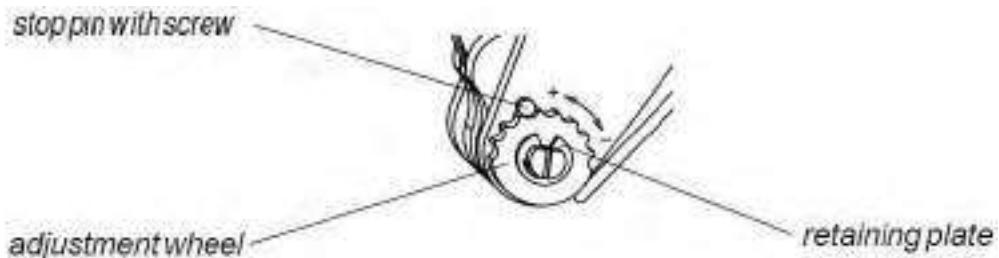

Figure 92
- (5) Slowly close the tool handles, allowing the dies to mate and/or align. Continue closing the tool handles until the ratchet makes the fifth "click", then tighten both die retention screws until snug.
- (6) Install the locator assembly on the stationary jaw and tighten the hex nut.
- (7) Install the contact locator on the movable jaw and tighten hex nut.
(8) Check the crimp heights. If necessary, adjust as follows:
- b. If the crimp height is greater than recommended, open the plier and remove the screwed stop pin (Figure 92) with a screwdriver. Rotate the adjustment wheel COUNTERCLOCKWISE (+). If a looser crimp is required, rotate the adjustment wheel CLOCKWISE (-).
- c. Replace the screwed stop pin (Figure 92).